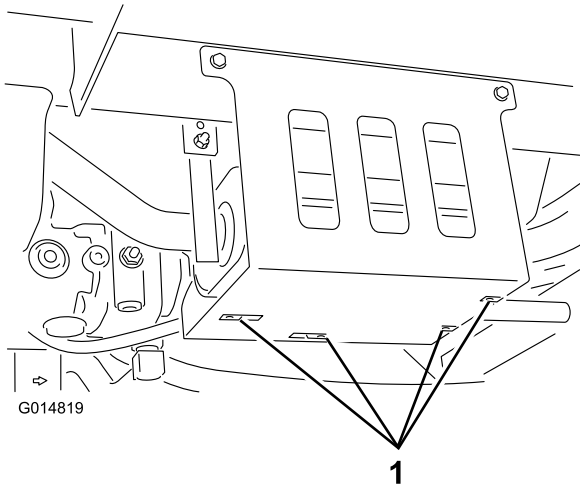

Figure 1
1. Attach the 4 U-nuts to the muffler heat shield (Figure 1).